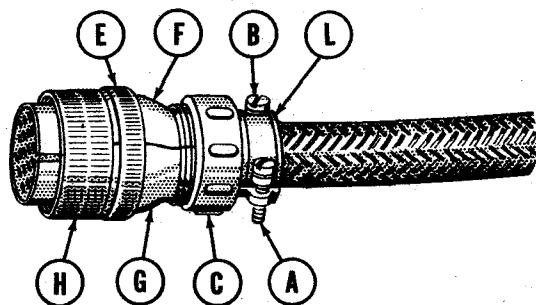

Figure 3-12. Installation of AN3102-22-14P (or-14S) Connector on MSCA-19 Cable
1. MAKE UP MSCA-19 CABLE, FROM P401 TO J702, OF A SUITABLE LENGTH AS INDICATED IN FIGURE 3-12.
1. MAKE UP MSCA-10 CABLE, FROM P701 TO TB14 OF TDZ, OF A SUITABLE LENGTH AS INDICATED IN FIG. 3-12.